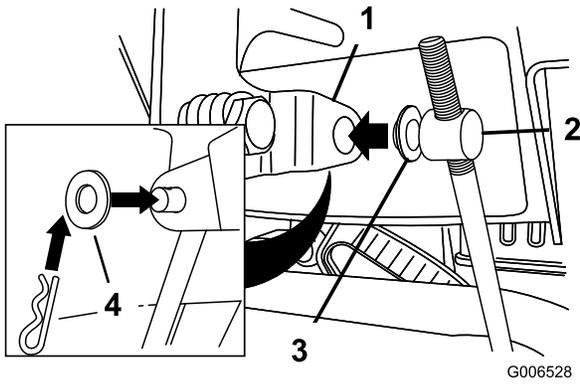

Figure 11
3. Remove the hairpin cotter and the outer washer from the trunnion on the upper end of the speed control rod (Figure 11).
**Note:** To make installation easier, leave the flat washer on the trunnion (Figure 11).
6. Lift up on the speed control rod and insert the trunnion into the hole in the speed selector lever (Figure 11).
- B. Disconnect the trunnion from the speed selector lever (Figure 11).